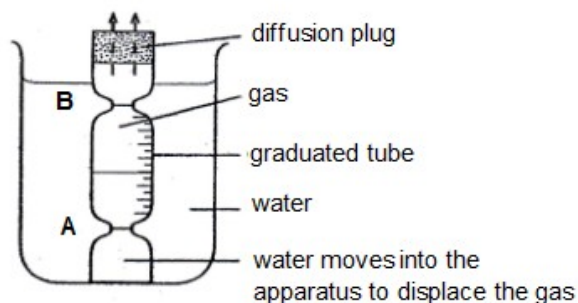

Fig 3.1
- 3 **Fig 3.1** shows a set-up for measuring the rates of diffusion of gases at a constant temperature. The rate of diffusion is measured in terms of the time taken for the water level to rise from **A** to **B** as the gas diffuses out of the diffusion plug.